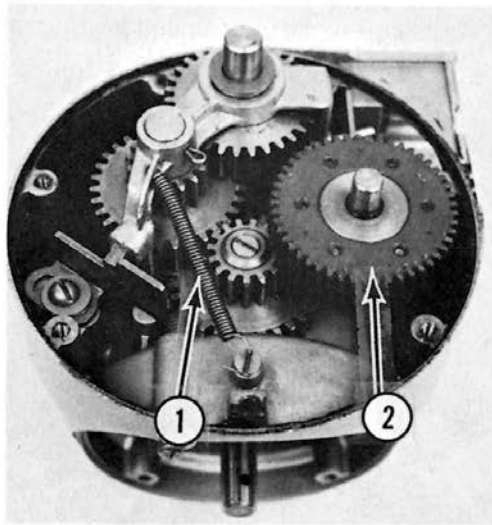

Fig. 3-34
- P. Connect the tumbler yoke spring (1, Fig. 3-34).
Q. Install the main drive gear (2, Fig. 3-34) on the eccentric shaft.